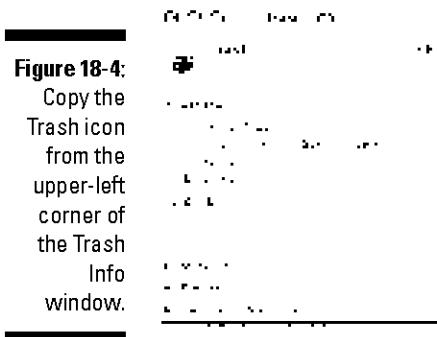

Figure 18-4:
3. **Click the Trash icon in the Dock to open it and press ⌘+I to bring up the Trash Info window, as shown in Figure 18-4.**